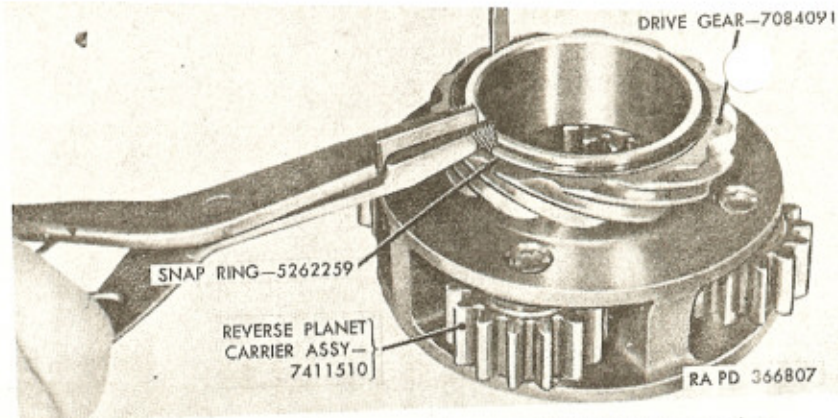

Figure 138. Removing rear oil pump drive gear snap ring.
1. Remove snap ring (K) securing rear oil pump drive gear (L) on hub of reverse planet carrier, using snap ring pliers and screwdriver (fig. 138).